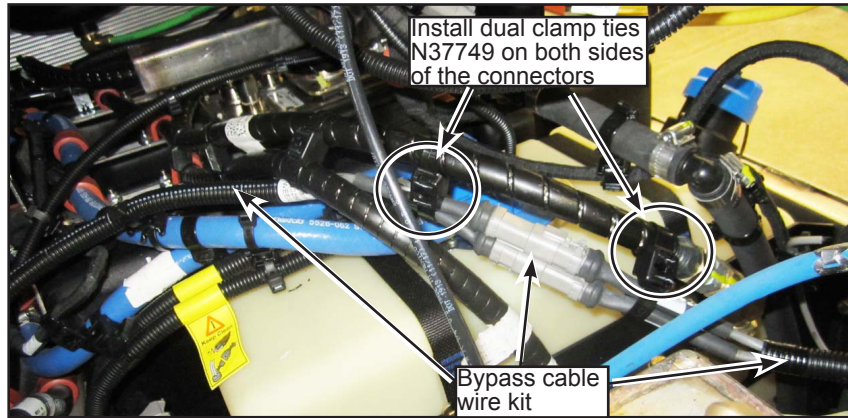

Figure 9 - Install Two Dual Clamp Ties
1.9. Install dual clamp ties N37749 on both sides of the bypass cable wire kit maintenance connectors (see Figure 9).